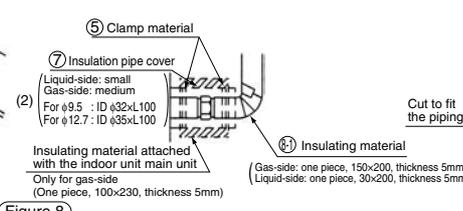

Figure 8
- (1) Connect the liquid and gas piping to the indoor unit main unit. (Figure 8)
- (2) Wrap the piping connections with the attached insulation pipe cover (medium and small) ⑦ and fasten either end with the attached clamp material ⑤. Next, put the attached insulating material ⑧. Wrap gas-side piping with the insulating material attached the indoor unit on top of the insulation pipe cover wrapped on the piping connections. (For the KDU50M60VE, there are two types of insulation pipe covers (medium) for the gas pipe connection. Select the one appropriate for the piping size.)